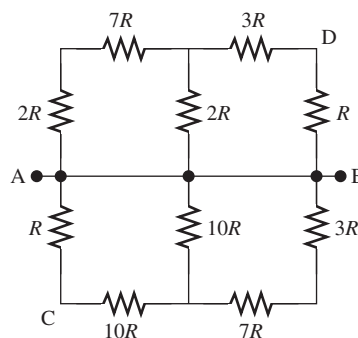

FIGURE P3.11 Resistor network for Problem 3.11.
- 3.11 (H)* For Figure P3.11, find (a) the equivalent resistance, R_{AB} and (b) the equivalent resistance R_{CD} .